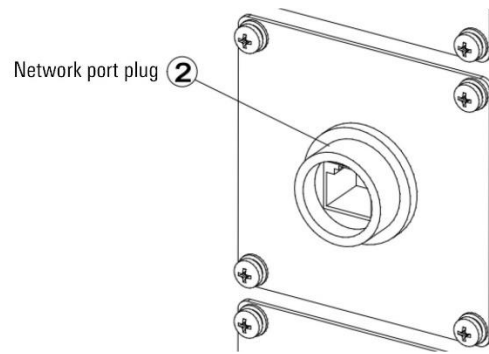

Figure 11-6 Network port plug
Step2. Install the ② network port plug (refer to Figure 11-6) on the network port plug installation plate.